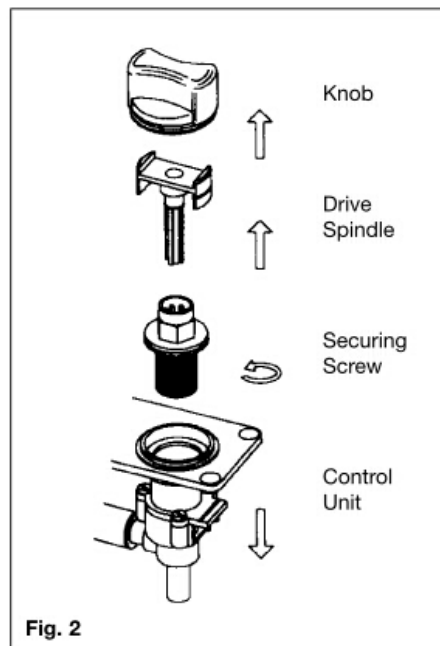

Fig. 2
3. Control unit(s) can now be released for inspection (see fig. 2).